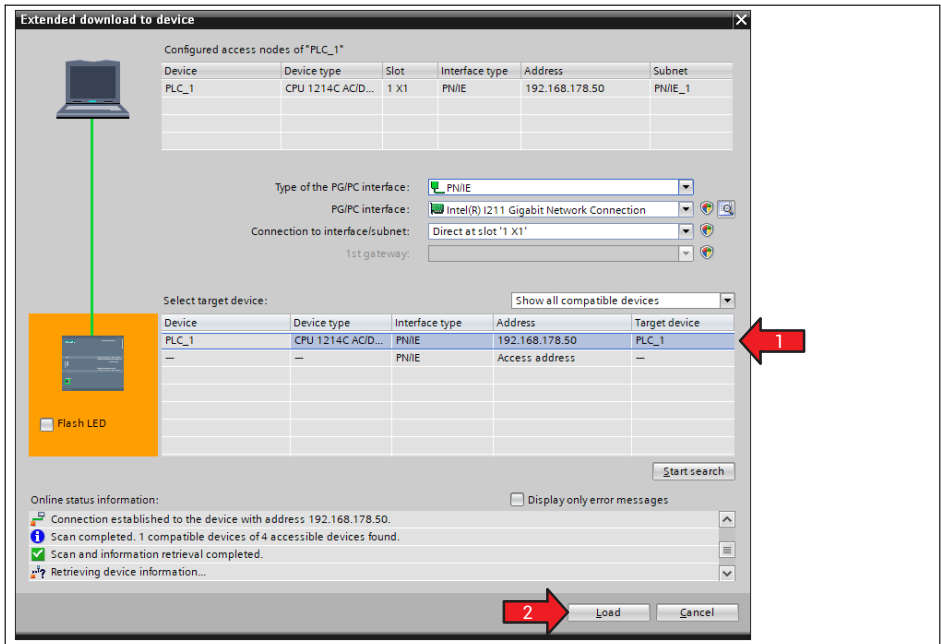

Fig. 6.13 Loading a program into the PLC
- ▶ In the dialog that follows, select the PLC and choose **Load** (Fig. 6.13).